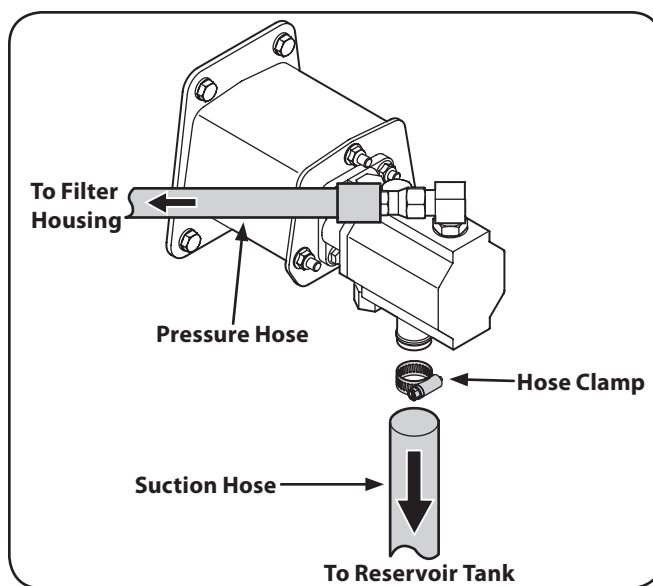

Figure 3-8
3. Attach the end of the suction hose to the fitting on the bottom of the pump. See Fig. 3-8.
3. Secure the pressure hose to the pump and cut the zip tie securing hose guard. See Fig. 3-8